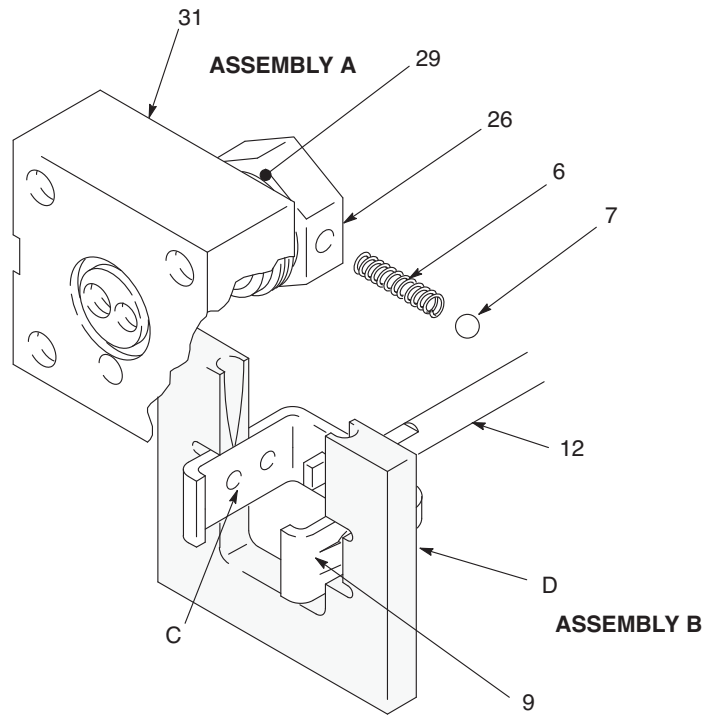

FIG. 10
14. Lay Assembly A and Assembly B on the work bench. (FIG. 10)
15. Slide Assembly B into the center of the tool (D). Align the upper detent holes (C) of the guide yoke (9) with the center line of the tool (D). (FIG. 10)
16. Insert the spring (6) and one ball (7) into the valve stop (26) of Assembly A. Tilt the valve stop, and start guiding it into the tool (D), making sure the ball is sliding into the rounded slot in the tool (D). Place the other ball at the other end of the spring, and push it in with your thumb while rotating the valve stop (26) until the spring is horizontal and the balls are in place. Continue holding this assembly together. (FIG. 10)
17. Slide the valve stop assembly down onto the tool. Make sure the balls (7) snap into the upper set of holes (C) in the guide yoke (9), and the curved ends of the guide clamp have engaged the valve sleeve (29) groove. (FIG. 10) Slide the tool (D) back over the rod (12) to remove it.